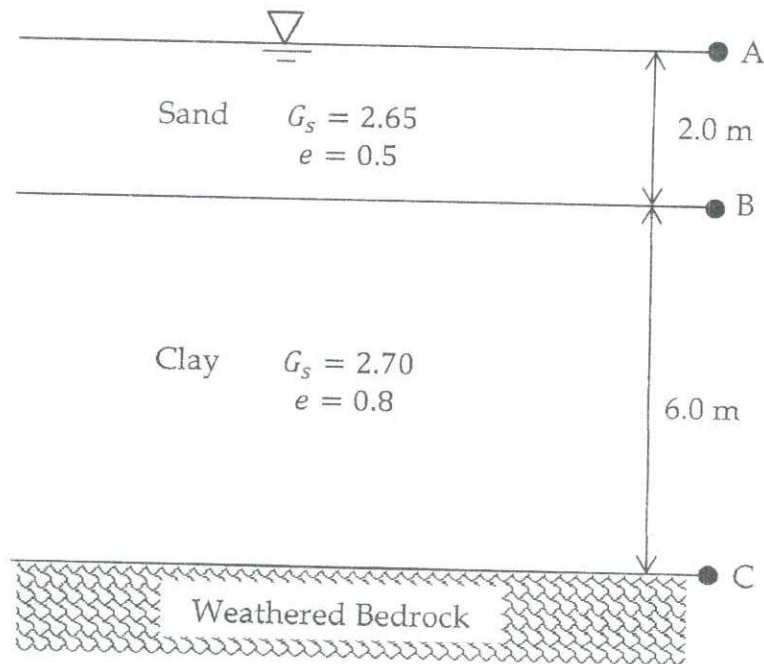

Figure Q3.1: Subsurface Profile
- b) The subsurface soil profile at a low-lying site selected for a construction of a sports stadium consists of 2.0 m thick layer of saturated sand followed by 6.0 m thick layer of saturated clay. Weathered bedrock is encountered underlying the clay layer. The water table is located at the ground surface. The subsurface soil profile is shown in Figure Q3.1. The specific gravity of sand and clay can be taken as 2.65 and 2.70, respectively. At their undisturbed in-situ state, sand has a void ratio of 0.5 while, clay has a void ratio of 0.8. The unit weight of water is 9.81 kN/m³.